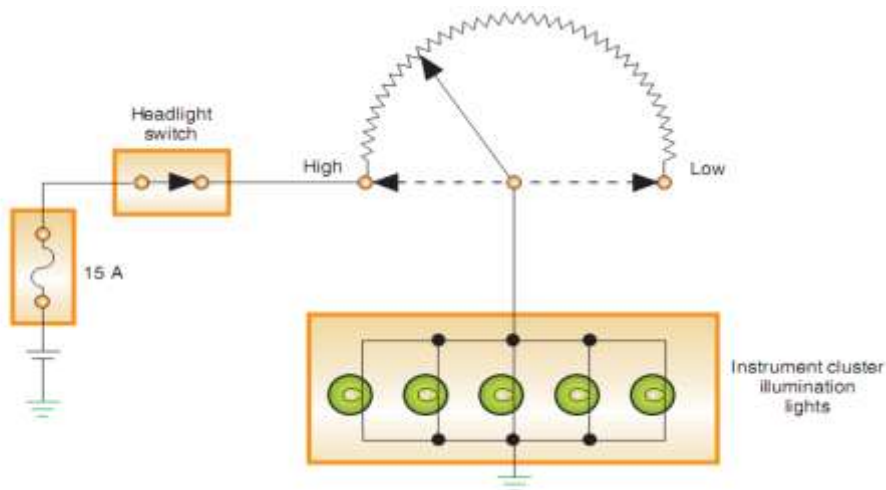

FIGURE 2-33 A rheostat controls the brightness of the instrument panel lights
3. Illumination lights provide indirect lighting to illuminate the instrument gauges, speedometer, heater controls, clock, ashtray, radio, and other controls. The power source for the instrument panel lights is provided through the headlight switch. The contacts are closed when the headlight switch is located in the PARK or HEADLIGHT Position. The current must flow through a variable resistor (rheostat) that is either a part of the headlight switch or a separate dial on the dash. The resistance of the rheostat is varied by turning the knob. By varying the resistance, changes in the current flow to the lamps control the brightness of the lights (Figure 2-33).